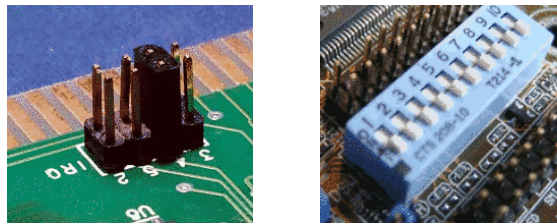

Figure 4.21: Switches and jumpers¹⁴
*Switches* have two positions – on and off. They are used to configure in hardware such features that have two states. The switch comes in several different forms – one of the forms is in Figure 4.21 on the right.